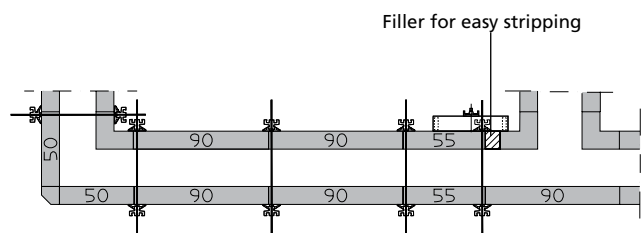

Fig. 69.3
■ Walls of less than 6 m require a filler for easy stripping (Fig. 69.3) as otherwise the formwork may wedge when stripping and stick to the concrete.